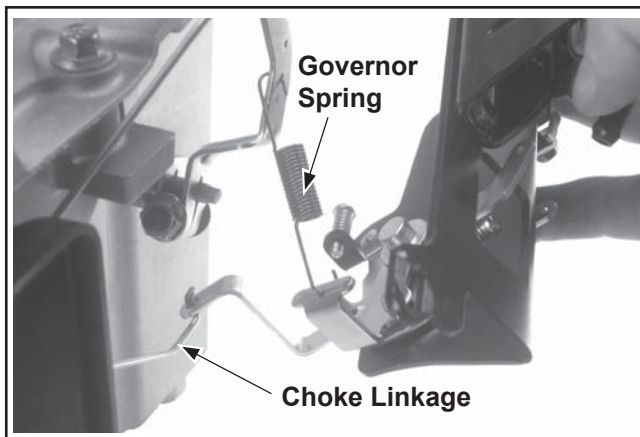

Figure 10-70. Connecting Choke Linkage and Governor Spring.
1. Attach the governor spring to the governor lever and the throttle lever of the speed control bracket, in the original holes. If the holes were not marked during disassembly, refer to the charts in Section 5. Connect the choke linkage from the carburetor to the actuating lever of the speed control bracket. See Figure 10-70.